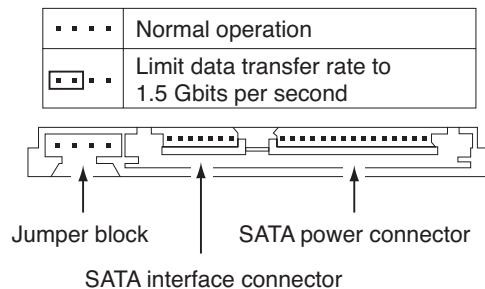

Figure 4. Serial ATA jumper block and connectors
- Install a jumper as shown in Figure 4 below to limit the data transfer rate to 1.5 Gbits per second (and leave the drive connected to the SATA-equipped motherboard or host adapter that doesn't support autonegotiation) or
- Install a SATA host adapter that supports autonegotiation, leave the drive jumper block set to “Normal operation” (see Figure 4 below), and connect the drive to that adapter. This option has the benefit of not limiting the drive to a 1.5 Gbits/sec transfer rate.